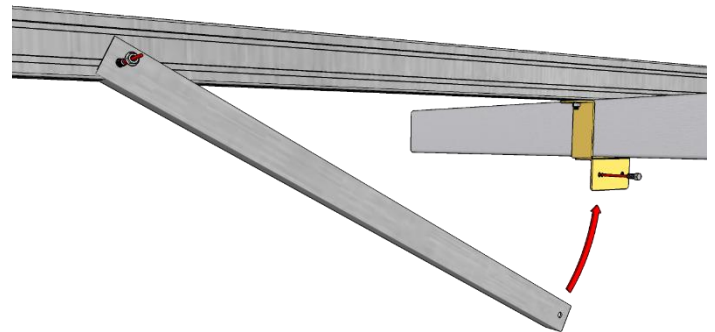

Fig. 15
- 15.2 With the brackets installed, slide a carriage bolt into the bottom slot of the Rail as shown in Fig. 15. Install the upper end of the Wind Brace so it hangs against the bottom of the Rail but leave the carriage bolt loose so the Brace can slide.